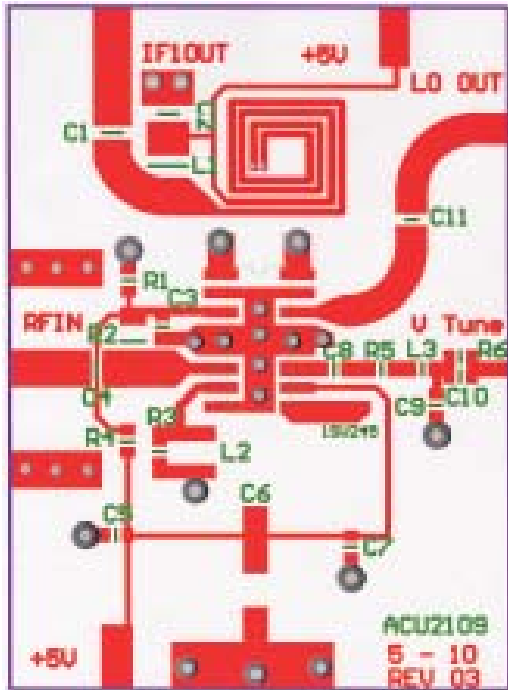

Figure 19: ACU2109 Evaluation Board Top View
(1) Case temperature is 15 °C higher than Ambient Temperature, when Ambient Temperature is ≤ +65 °C, using PC Board Layout shown in Figures 19 - 20.
(1) Case temperature is $15\text{ }^\circ\text{C}$ higher than Ambient Temperature, when Ambient Temperature is $\leq +65\text{ }^\circ\text{C}$, using PC Board Layout shown in Figures 19 - 20.
(1) As measured on ANADIGICS Evaluation Board shown in Figures 19 - 20.
(2) 138 channels, 0 dB tilt, +7 dBmV flat
(3) 138 channels, -10 dB tilt, +7 dBmV at 55.25 MHz
(4) As measured in ANADIGICS test fixture, using Anaren 3 dB 180° coupler (part no. 30055) and external bias-tees.
(5) All channels 99% AM modulated at 15 kHz, including adjacents
(6) Two tones, -15 dBm (+33.75 dBmV) each
(7) At 250 kHz comparison frequency, 3 kHz loop bandwidth
(8) Case temperature is $15\text{ }^\circ\text{C}$ higher than Ambient Temperature, when Ambient Temperature is $\leq +65\text{ }^\circ\text{C}$, using PC Board Layout shown in Figures 19 - 20.